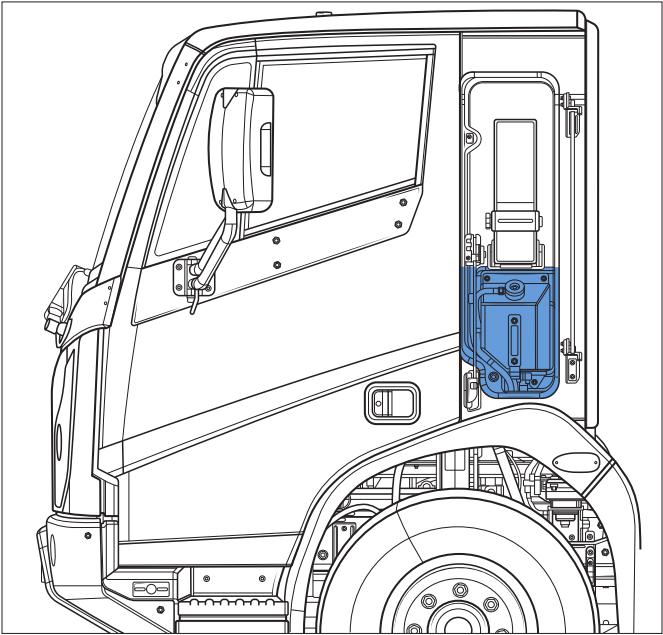

Figure 22 - Battery coolant reservoir
- 3. Pull the panel to access the battery coolant reservoir (**Figure 22**). This coolant is a special low-conductivity fluid (type LCF-50).